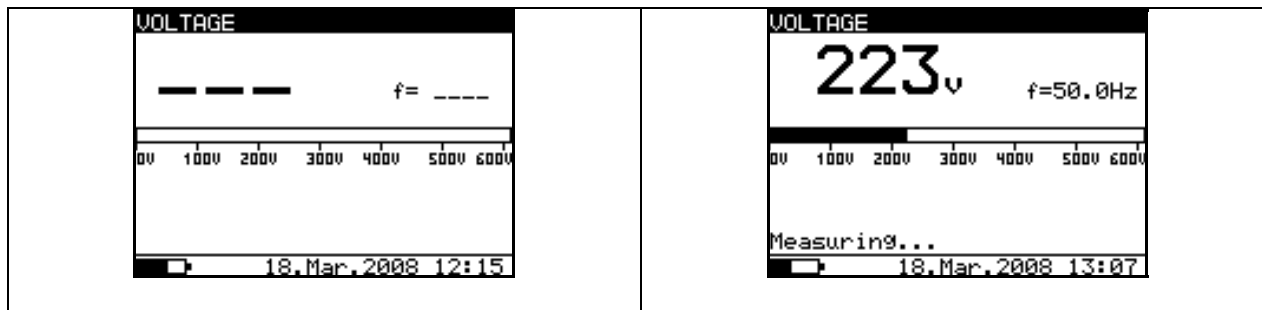

Fig. 10. Voltage function display states
Selecting this function displays the following states (initial state and state with results after completion of the measurement). See **fig. 10** below.
- The result (see the picture in **Fig 10**) can optionally be saved by pressing the **MEM** key twice, see chapter 6.1. Store, Recall and Clear Operation.